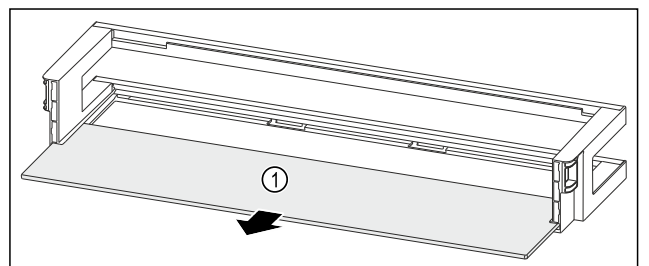

Fig. 131 Door rack with shelf
- ▶ Remove the shelf Fig. 131 (1).